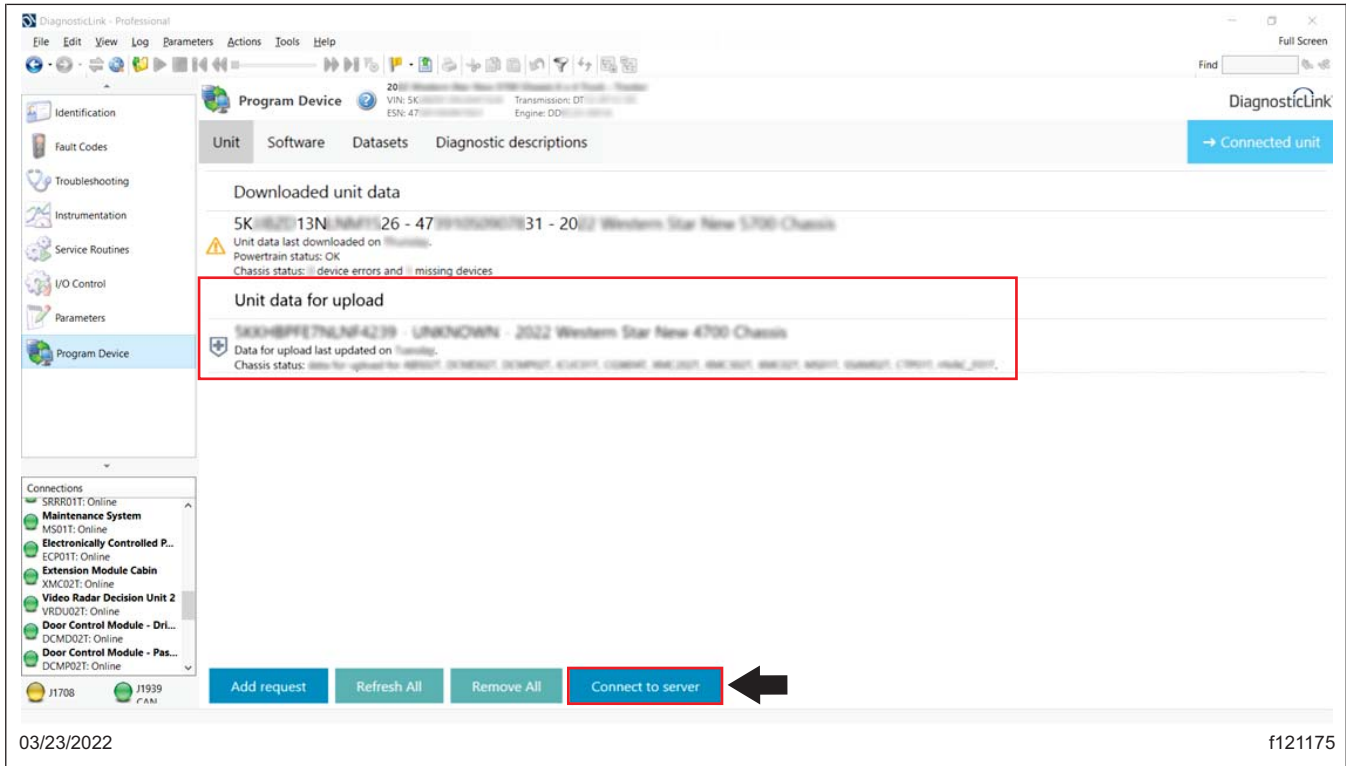

Fig. 6, Uploading the New Parameters to the Server
- The information corresponding to the VIN should appear under the 'Unit data for upload.' Select 'Connect to server' to upload the new parameters. See Fig. 6.